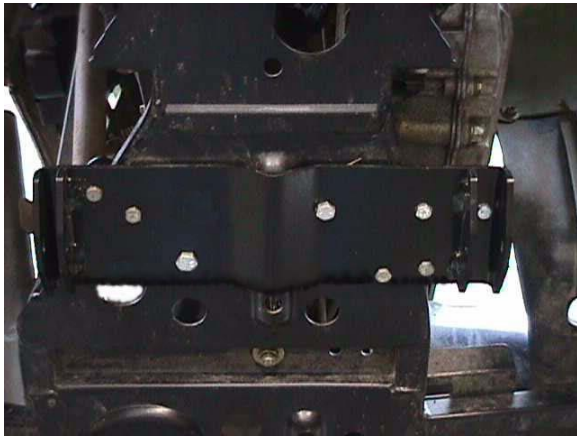

Figure 2
1. Slide the plow into position with the tubes under the ATV. Lift the end of the tube assembly into position so the holes in the tube wings line up with the 3/8” holes in the frame brackets (Figure 2).